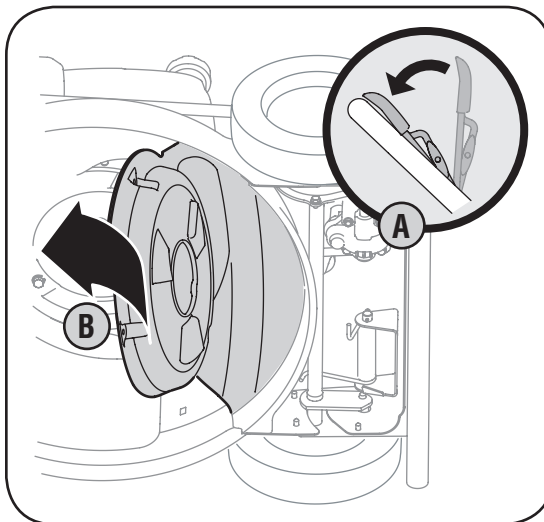

Figure 5-10: Engage the blade control to tighten the belt (A) and place baffle back onto deck (B).
b. Return baffle back to its original position and release the blade control. See Figure 5-10.